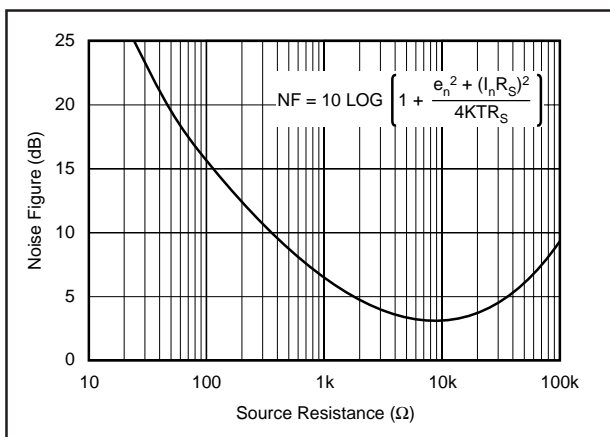

FIGURE 7. Noise Figure vs Source Resistance.
The OPA646 voltage and current noise spectral densities are specified in the Typical Performance Curves. For RF applications, however, Noise Figure (NF) is often the preferred noise specification since it allows system noise performance to be more easily calculated. The OPA646's Noise Figure vs Source Resistance is shown in Figure 7.